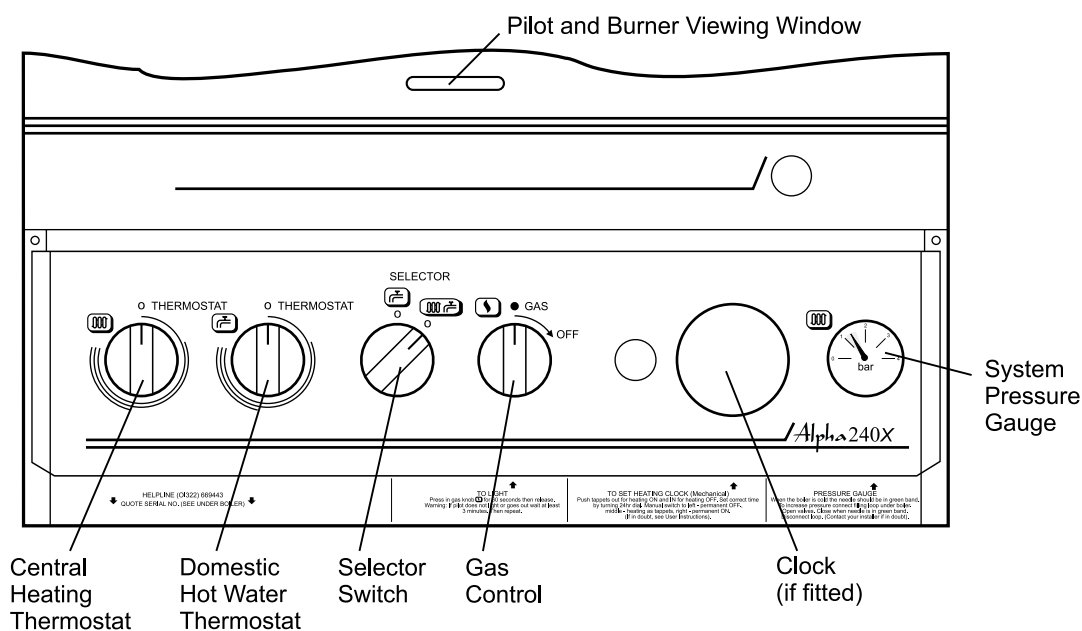

Fig. 16
5.2 BOILER CONTROLS - Fig. 16
5.4 INITIAL LIGHTING - Refer to Fig. 16